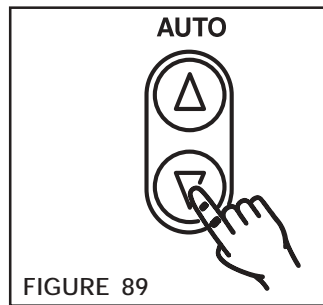

FIGURE 89
2. While the web is running, you can change the Tension Set Point by simply pushing the up or down Auto Keys (Figure 89) until the desired tension value is reached.